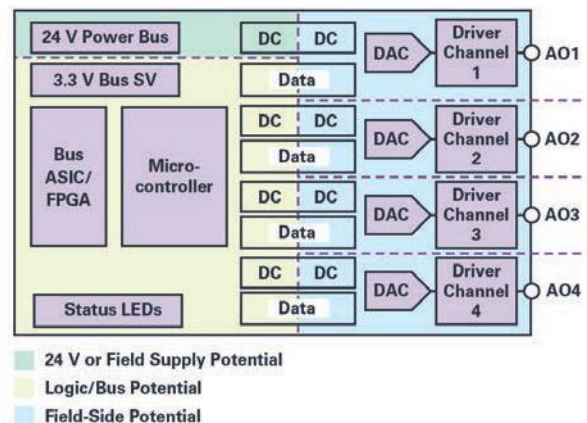

Figure 1: Block diagram of an isolated analogue output
because, as shown in Figure 1, a set value must be driven actively and with high accuracy under many different load conditions. The active driver stage is important here; losses should be kept as small as possible.
■ **Isolated driver supply:** For safety reasons, the PLC bus is always galvanically-isolated from the I/O modules. Figure 1 shows this isolation with colour coding for the three different potentials of logic (bus) side, voltage supply and field-side output.